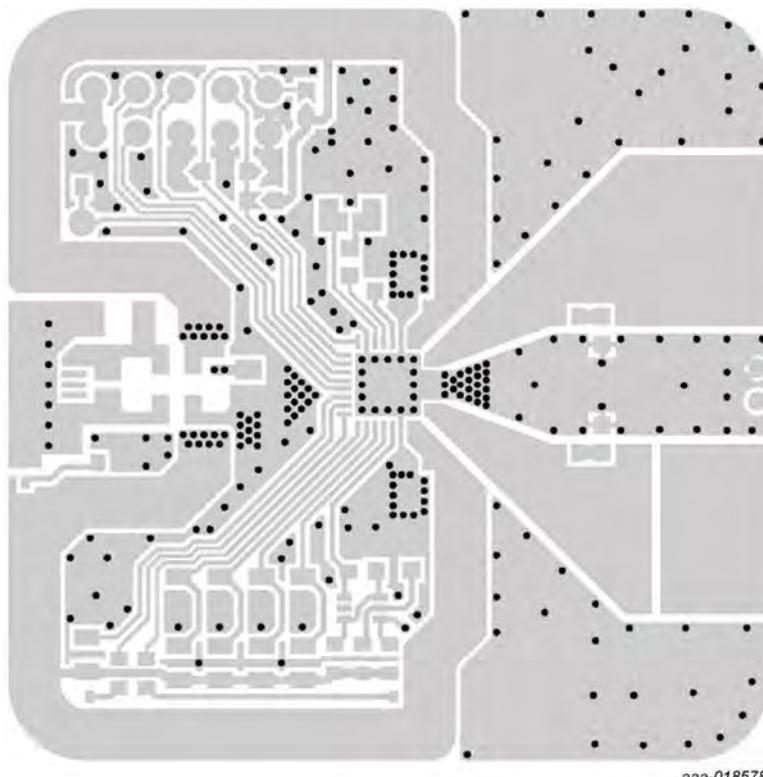

Fig 13. Top side with via pattern
- Shielding (non-current conducting) GND planes in the top copper layer must be stitched to the non-current conducting GND areas of the bottom layer GND plane. The stitching must be done with vias on the edges of the planes. The intended stitching can easily be recognized on the right-hand side of the picture in Figure 13.
- Thermal vias in remote areas (that is: relatively far from the dissipating element) do not really contribute to thermal performance. The thermal gradient from top to bottom layer is already minimal in remote areas. So, connecting them with a low thermal impedance path does not bring much improvement. All remote vias shown in Figure 13 have an electrical (non-thermal) purpose.